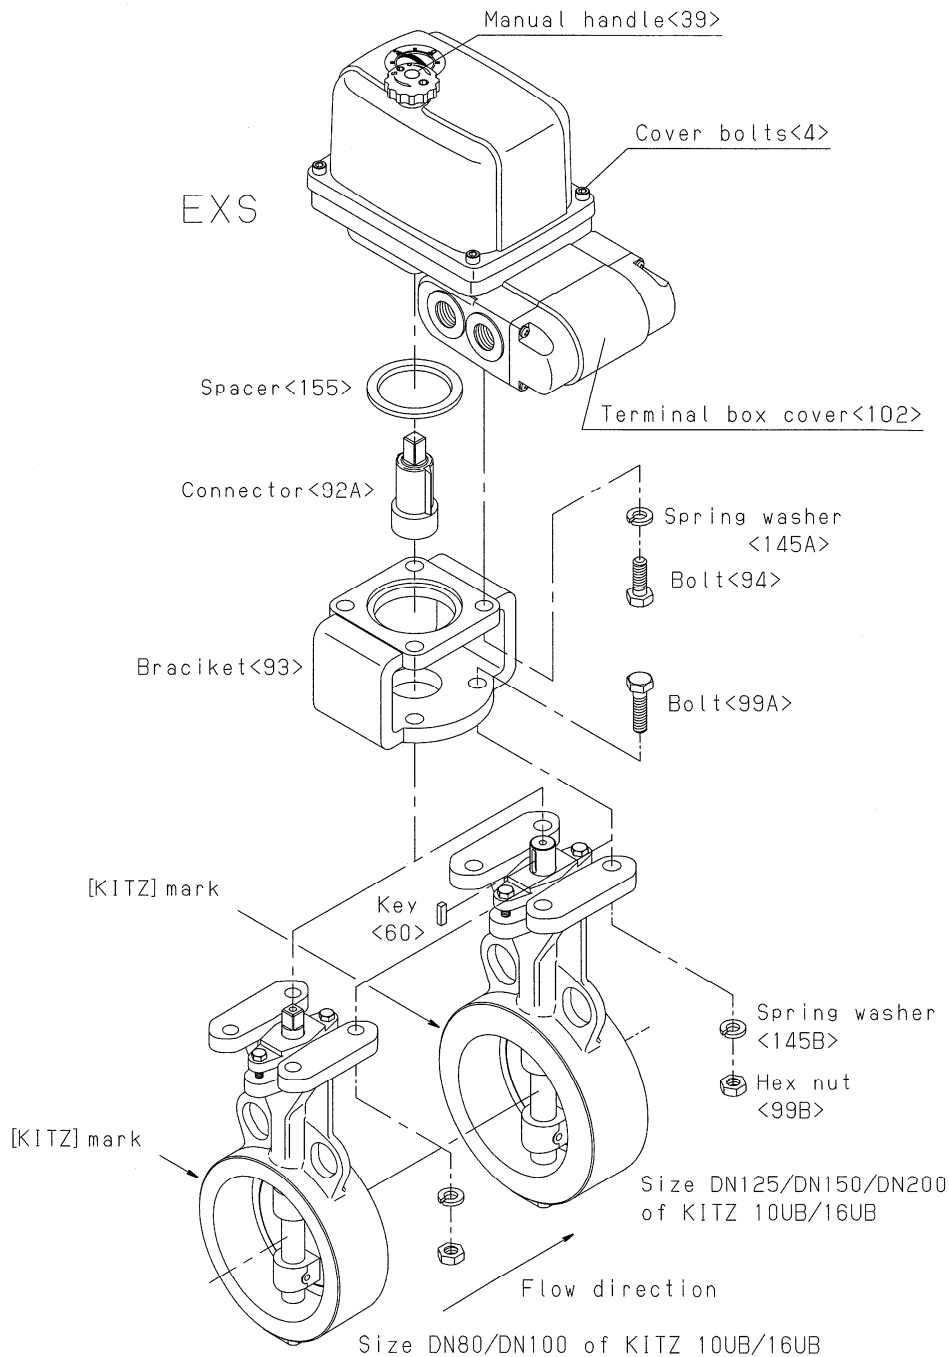

Fig.23
11.2.4 Mounting Type EXS actuators on Size DN80 to DN200 of KITZ 10UB and 16UB butterfly valves (Fig.23)
- ① Thread hexagon bolts [99A] into an actuator mounting bracket [93] and tighten them with spring washers [145B] and hexagon nuts [99B].
- ② Assemble a stem-to-shaft connector [92A] onto the stem head of a valve. For Size DN125, DN150 and DN200, a key groove is provided on a side of the stem head. Fit a key [60] to the stem head before assembling the connector.
- ③ Put a spacer [155] onto a bracket [93].
- ④ Mount an actuator on the top flange of a bracket, and tighten them with spring washers [145A] and hexagon bolts [94], ensuring that a terminal box faces to the opposite side of the valve body marked [KITZ]. Check again that an actuator and a valve are set for fully closed position.
- ⑤ After having correctly mounted an actuator on a valve, make an adjustment of valve opening position, following Section 13 of this manual.